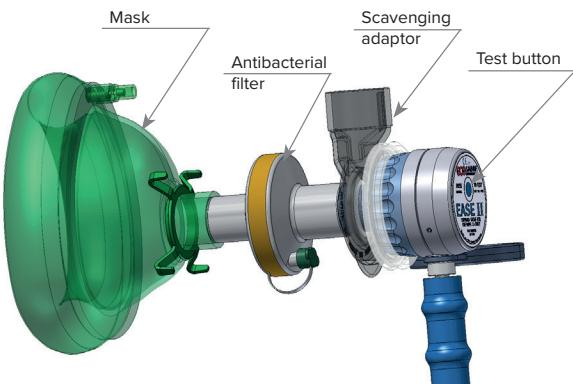
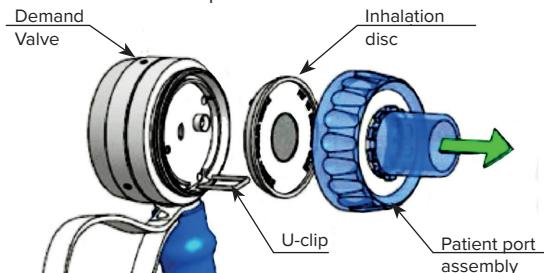

Fig. 1: Fitting scavenging adaptor, filter and mask
Fig. 2: Demand valve parts
- When using the scavenging adaptor, fit it to the demand valve by pushing it over the patient port. (see Fig. 1).
Select mask or mouthpiece and filter as appropriate for the patient and fit to the demand valve by pushing it over the 22 mm insert female tapered outlet on the patient port (see Fig. 1).
Units should be checked by lightly pressing the test button (see fig 1., fig.2). Gas should be heard flowing through the mask or mouthpiece. On releasing the test button, the flow should stop.
3. Lift and remove the U-clip using a small screwdriver. See fig 2 above.